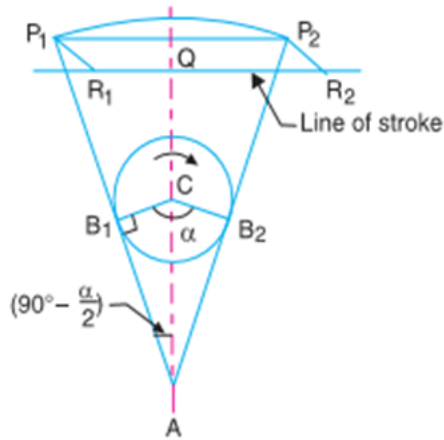

Figure 2
- In a crank and slotted lever quick return mechanism, as shown in Figure 2 the driving crank length is 75 mm. The distance between the fixed centres is 200 mm and the length of the slotted lever is 500 mm. Find the ratio of the times taken on the cutting and idle strokes. Determine the effective stroke also. [BL: Apply| CO: 1|Marks: 7]